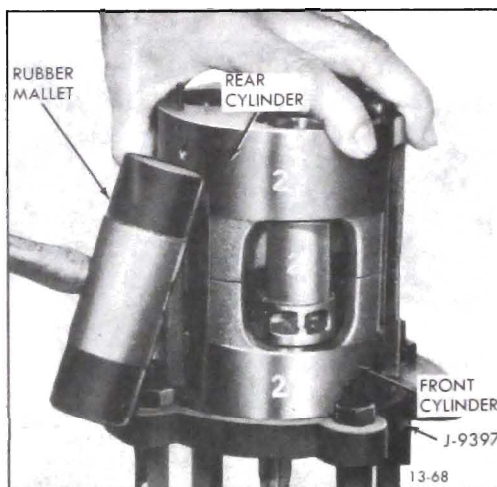

Figure 13-92 Separating Cylinder Halves
2. Place cylinder assembly (front end downward) on top of compressing fixture (J-9397), number pistons and cylinders "1, 2 and 3" to facilitate reassembly (see Figure 13-92), and separate cylinder halves using a hard rubber mallet or hammer and wood block.